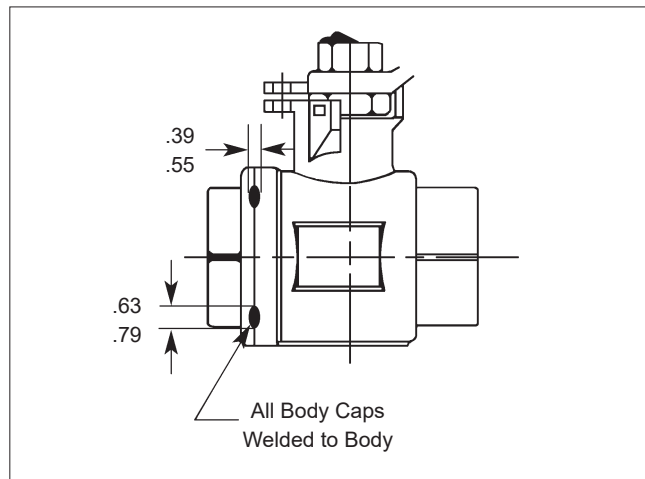

Figure 5.
14. Weld the body cap to the body following the instructions in **Figure 5 and Table 4**. Welds must be equally spaced $\pm 10^\circ$. Weld not to exceed 1/8" (3.175 mm) depth of penetration.